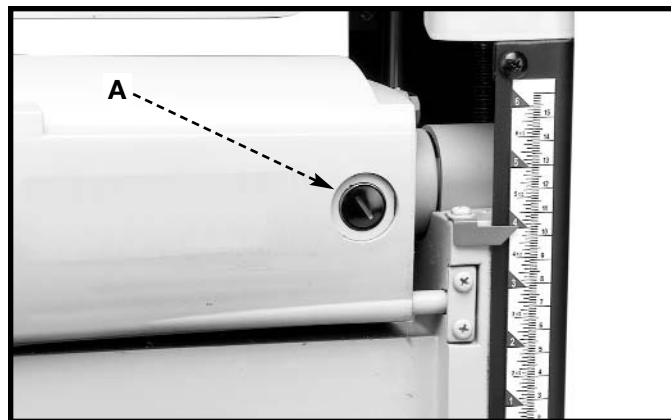
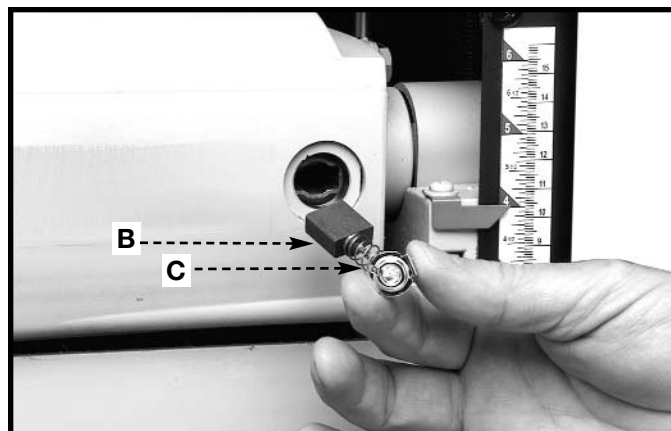

Fig. 26
Fig. 27
The brush holders, one of which is shown at (A) Fig. 26, are located on the motor housing opposite each other. One of the brushes, removed for inspection, is illustrated in Fig. 27. When the carbon (B) on either brush is worn to 3/16" in length or if either spring (C) or shunt wire is burned or damaged in any way, replace both brushes. If the brushes are found serviceable after removing, re-install them in the same position as removed.